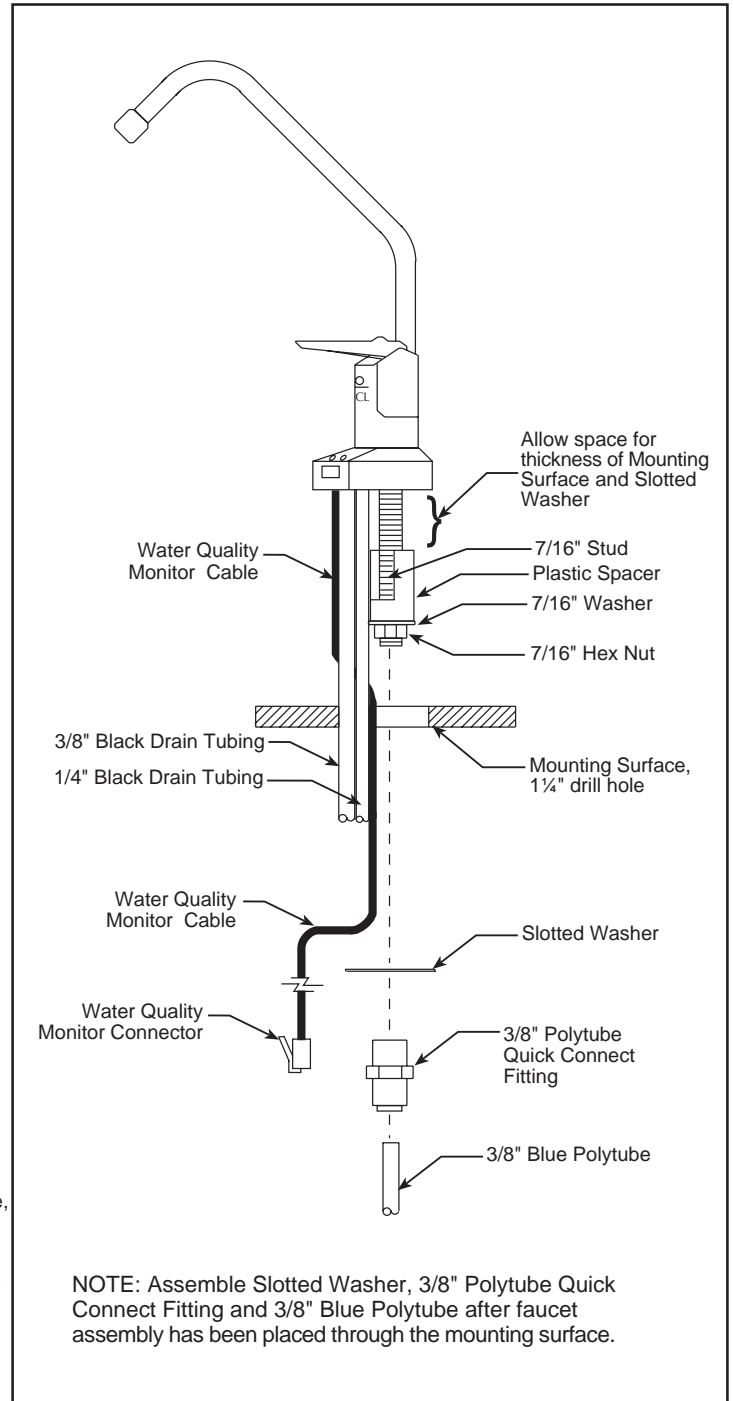

Figure 2B
- From the top of the counter place the stud, tubing and Water Quality Connector Cable through the mounting hole. See Figure 2B, page 9.